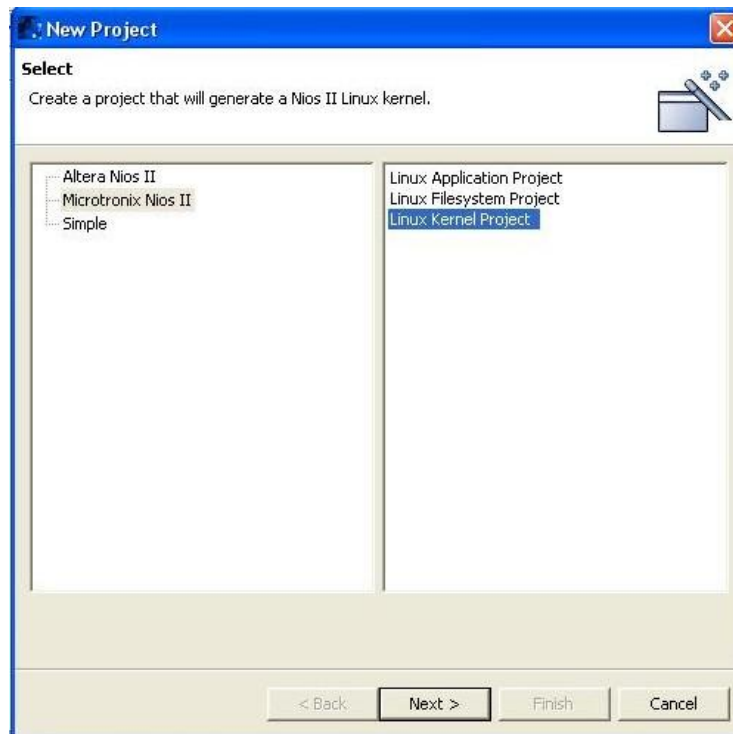

Figure 8: Creating a Linux Kernel Project
3. In the New Project window, select **Microtronix Nios II** on the left and select **Linux Kernel Project** on the right (refer to Figure 8).